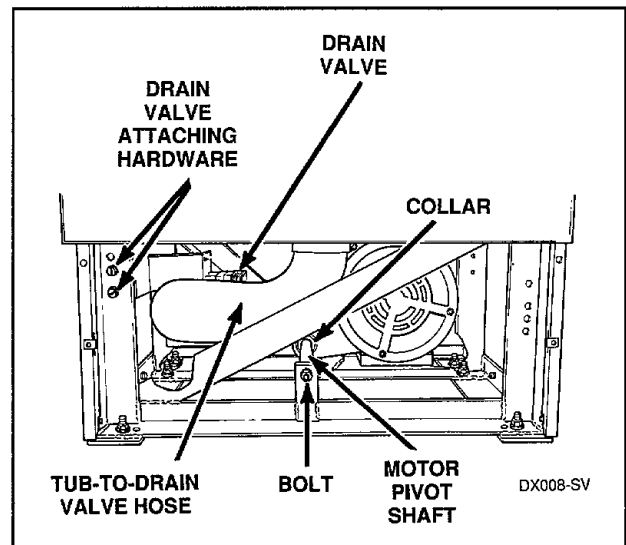

Figure 12
- l. Remove front bolt from motor pivot shaft and pull shaft out through rear of washer, *Figure 12*.
NOTE: Block the motor in a way that will support itself when the pivot shaft is removed, *Figure 12*.
- c. Loosen hose clamp and remove the hose from drain valve, *Figure 12*.
- e. Remove attaching hardware holding drain valve to left side of washer frame, *Figure 12*.
- f. Loosen hose clamp on the drain valve-to-tube hose and remove drain valve from hose, *Figure 12*.